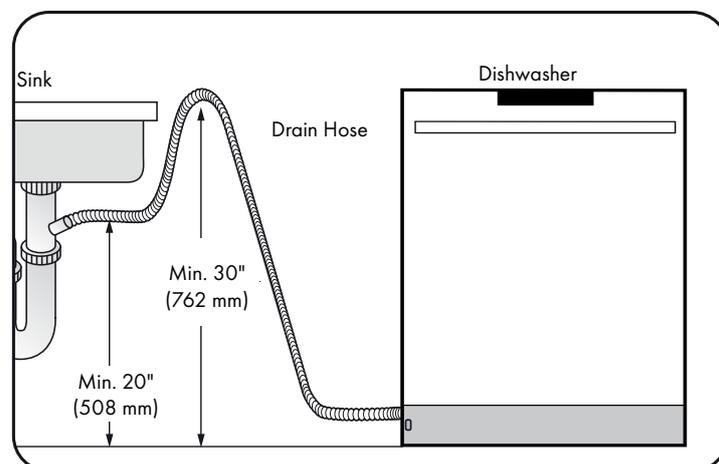

Figure 12
5. If there is no air gap, you can install a high loop. Hang the high point of the drain hose as close as possible to the overflow level of the sink; this helps prevent backflow and foul smells resulting from standing water. The high point should be at least 30" (762 mm) from the cabinet floor, as outlined below in Figure 12.